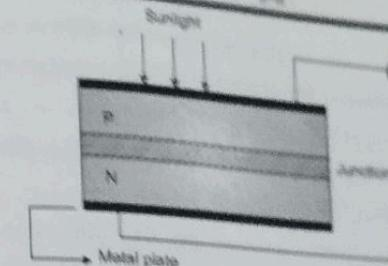

Fig. 3.3.1 (a) : Working of a solar cell
- For both mono and multicrystalline Si, a semiconductor homojunction is formed by diffusing phosphorus (an n-type dopant) into the top surface of the boron doped (p-type) Si wafer. Construction of the solar cell is as shown in Fig. 3.3.1(a).